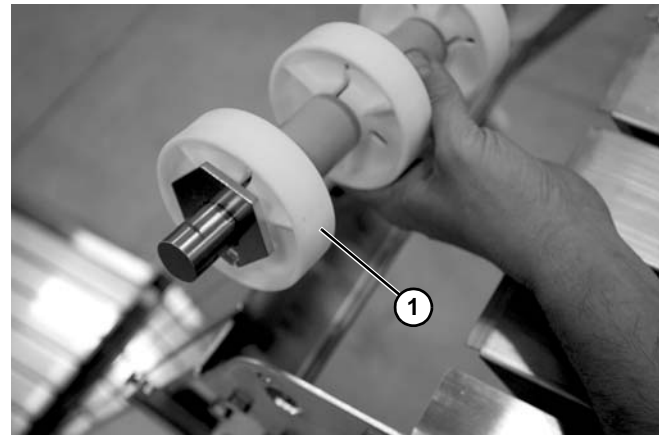

Figure 126
4. Remove upper shaft assembly (**Figure 126, item 1**).